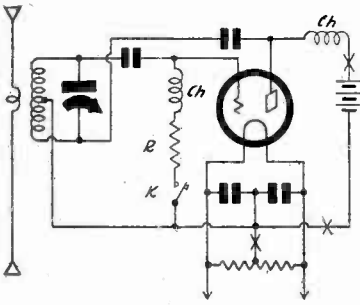

FIG. III-3
In Fig. III-3 is an oscillator circuit in which the key, K, has been placed in series with the grid leak, which in this case consists of a resistance R and a radio-frequency choke Ch. The key could also have been placed at any one of the three points marked (X). The best place to put the key, in this circuit at least, is where it is, that is, in series with the grid leak, for in this place it does not have to break much current.